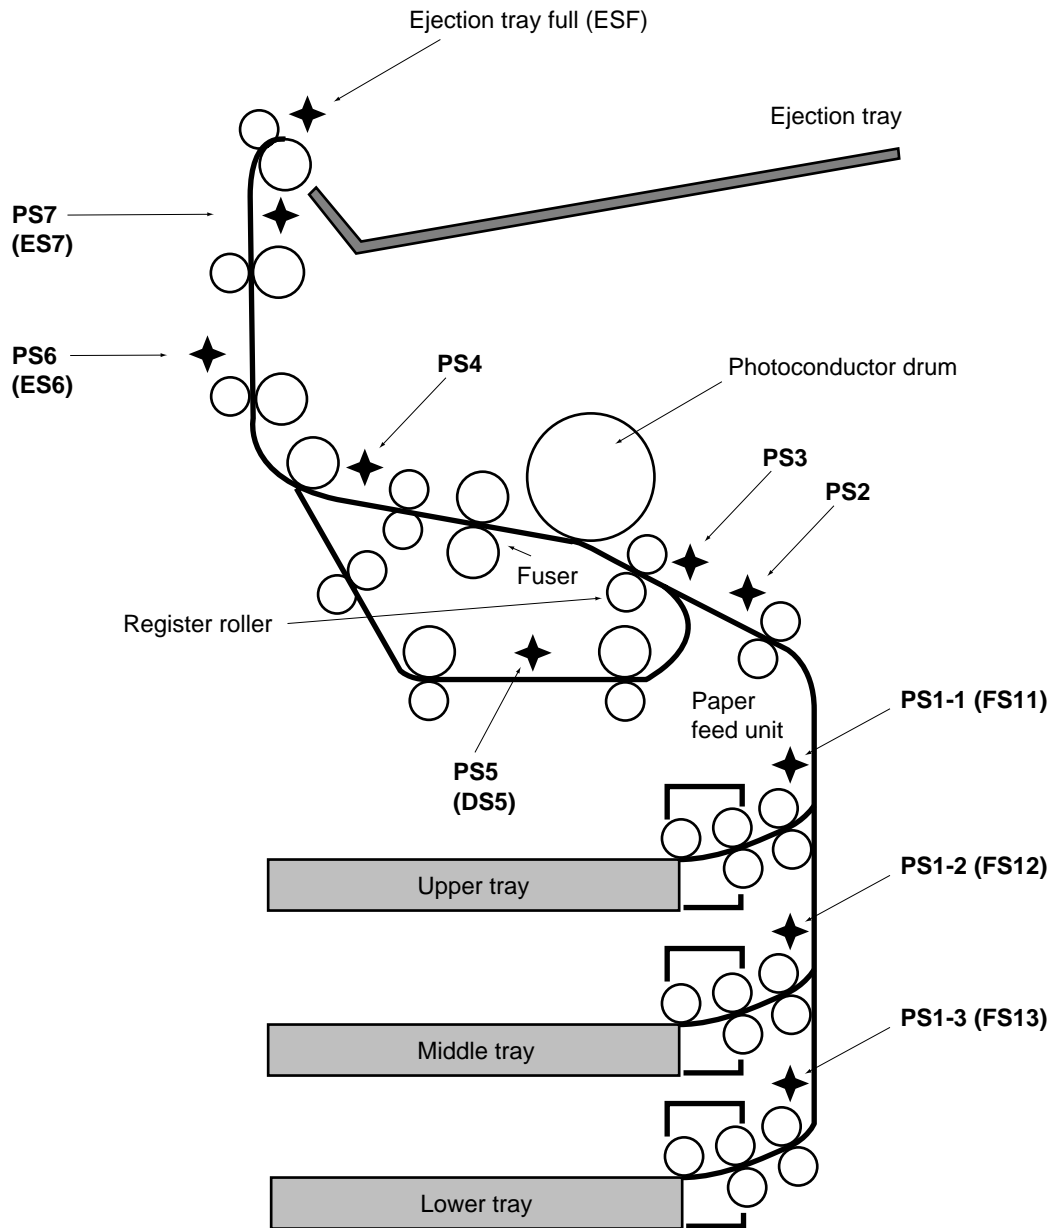

Figure 2-12. Position of Jam Detection Sensors
- Figure 2-12 "Position of Jam Detection Sensors," Page 2-24
Refer to Table 2-4 "Jam Codes, Names, Conditions and Messages" and Figure 2-12 "Position of Jam Detection Sensors":